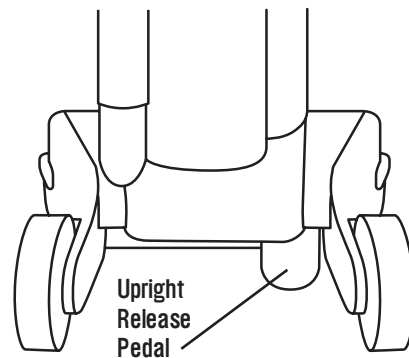

Figure 9a
2. Locate the Upright Release Pedal on the bottom back side of your Vacuum Cleaner between the 2 wheels. (See Figure 9a.)